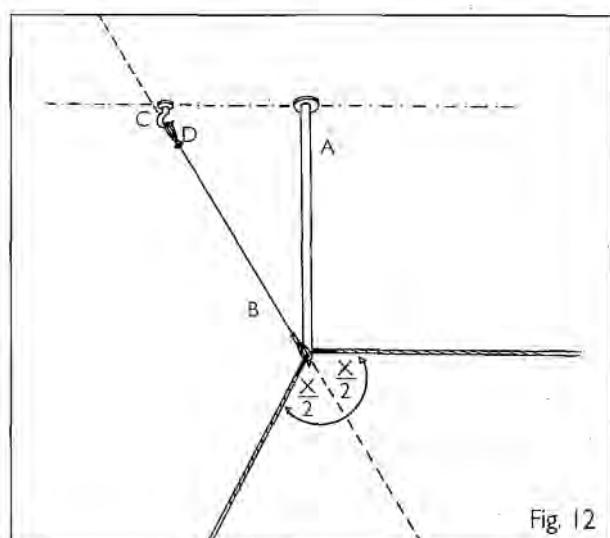

Fig. 12
Using an 8 mm masonry bit, drill an exactly vertical hole at least 4 cm deep and fix the hook (C) to the ceiling as shown in the diagram. Hang the cable loop with the nipple on the hook and place the red loop in the groove on the ceiling rod (Fig. 12).